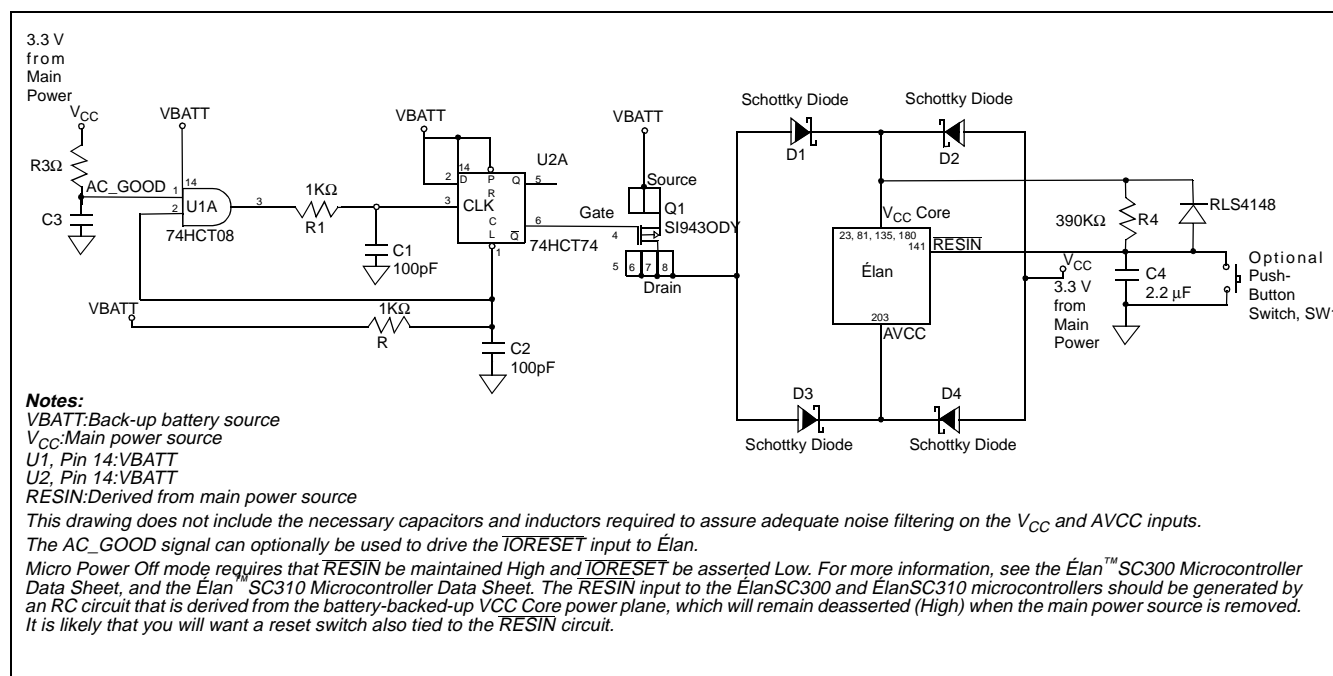

Figure 1. Clean-Transition Switching Circuit
- You should implement a switching circuit to allow a clean transition from the main power source to the back-up battery source when the system is put into Micro Power Off mode. This circuit should also gate off the back-up source from the VCC and AVCC pins until a main power source is present the first time. See Figure 1 for a circuit example. Table 1 shows the materials required for this particular circuit.
- If the system design guarantees that the back-up battery will be in place before the main power source is present, the following components may be deleted from Figure 1: U1, R1, and C1. The AC_GOOD input of U1 would then be tied directly to U2, pin 3. This is because the CLK input of U2 must only be clocked when VBATT is present. The AC_GOOD signal can also be used to drive the $\overline{\text{IORESET}}$ input to the ÉlanSC300.